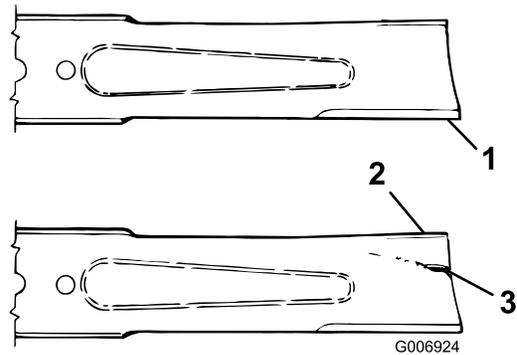

Figure 72
2. Examine the cutting ends of the blade carefully, especially where the flat and curved parts of the blade meet (Figure 72). Since sand and abrasive material can wear away the metal that connects the flat and curved parts of the blade, check the blade before using the
machine. If wear is noticed (Figure 72), replace the blade; refer to Removing the Cutter Blade.
**If the blade is allowed to wear, a slot will form between the sail and flat part of the blade (Figure 72). Eventually a piece of the blade may break off and be thrown from under the housing, possibly resulting in serious injury to yourself or bystanders.**